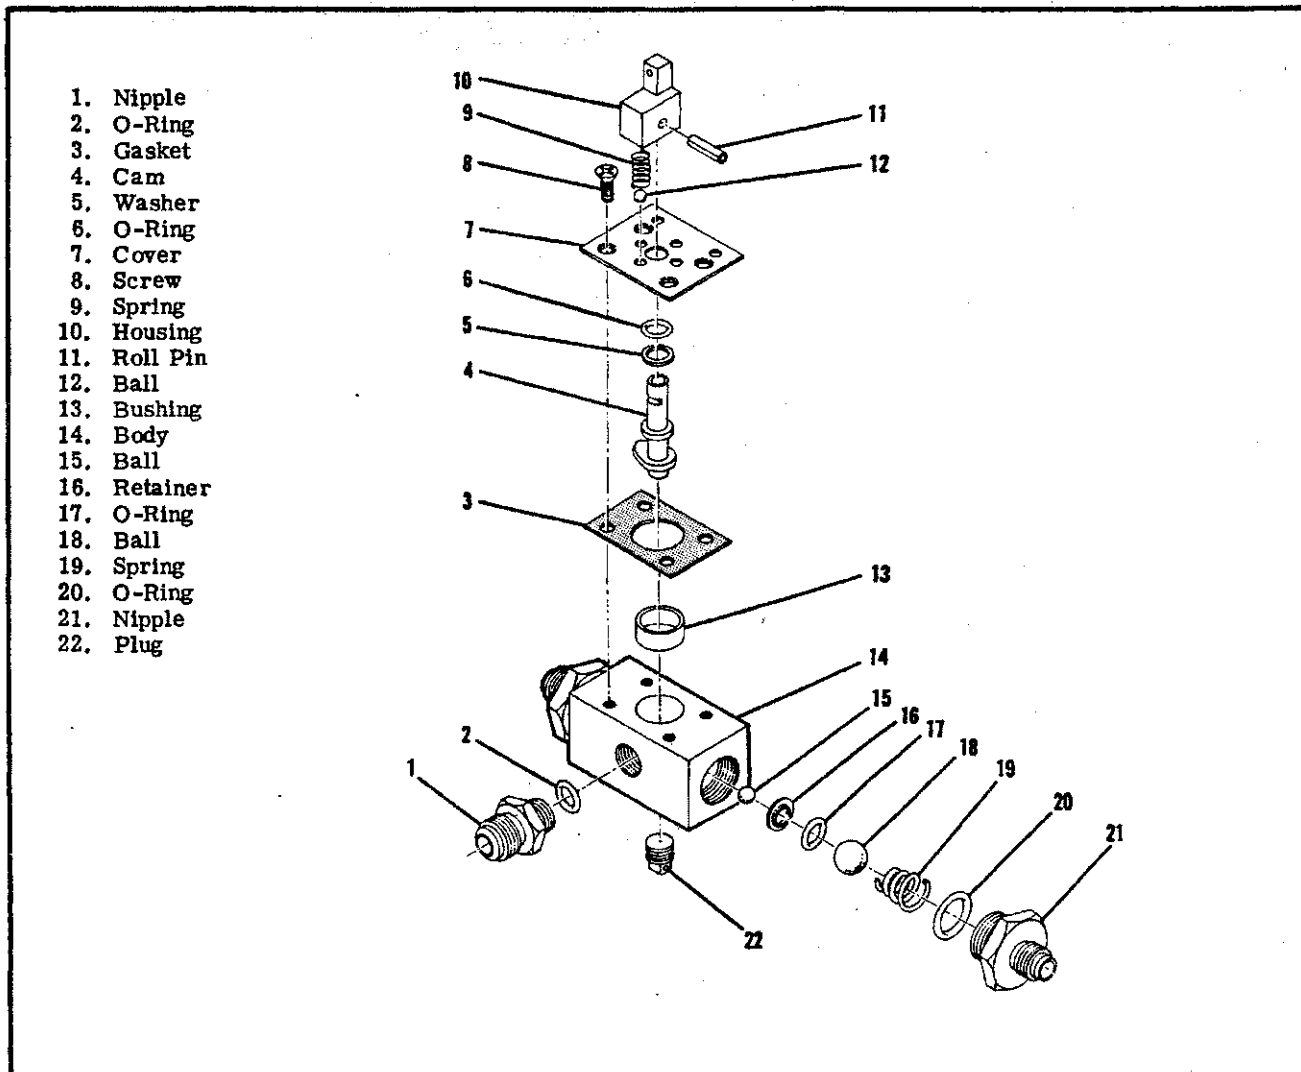

Figure 12-5. Fuel Selector Valve
**12-13. DESCRIPTION.** A four position fuel selector valve is located between the pilot and copilot positions on the pedestal. The positions on the valve are labeled "OFF, LEFT, BOTH ON and RIGHT." Valve repair consists of replacement of seals, springs, balls and other detail parts. Figure 12-5 illustrates the proper relationship of parts and may be used as a guide during disassembly and assembly.